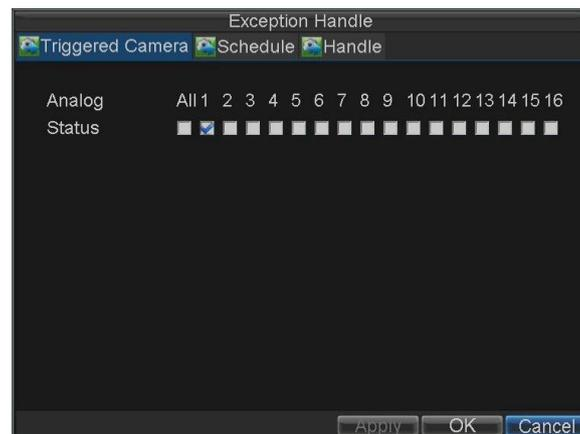

Figure 10. Triggered Cameras Menu
6. Select cameras to trigger for recording when alarm occurs by checking the checkboxes under the desired cameras, as shown in Figure 10.